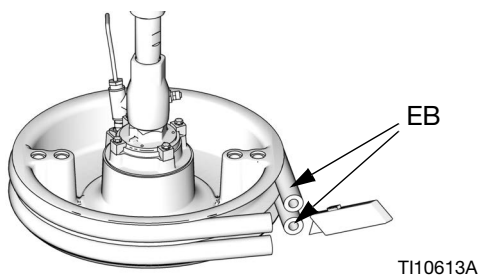

FIG. 34
2. Turn the Power Junction Box Switch (AK) and the Disconnect Switch (AZ) OFF.
3. To replace worn or damaged Wipers (EB), raise Platen up out of drum. Remove drum from base. Wipe fluid off of Platen.
4. Cut the Wiper(s) (EB) with knife and remove from Platen. See FIG. 34.